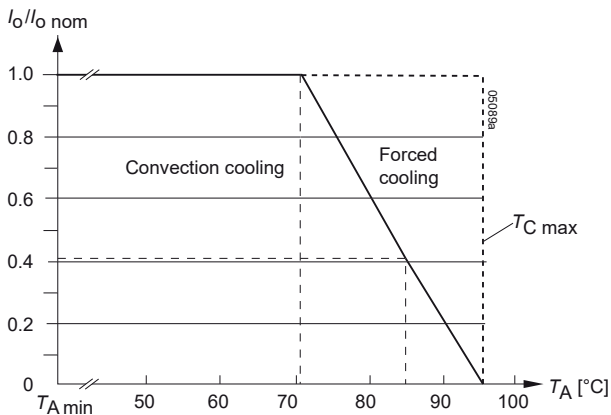

Fig. 7
**Notes:** Sufficient forced cooling or an additional heat sink allows  $T_A$  to be higher than 71 °C (e.g., 85 °C), as long as  $T_{C,max}$  is not exceeded. Details are specified in fig.7.